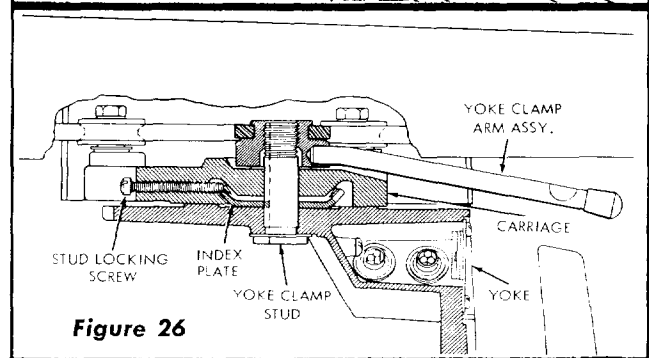

Figure 26
2. Locate the yoke clamp stud locking screw at the rear of the yoke assembly. (See figure 26.)
3. Turn the locking screw outward at least 1/4-inch from tight position. This frees the index plate (figure 26) which is keyed to the yoke clamp stud, thus permitting the stud to be rotated when the yoke clamp arm is loosened.